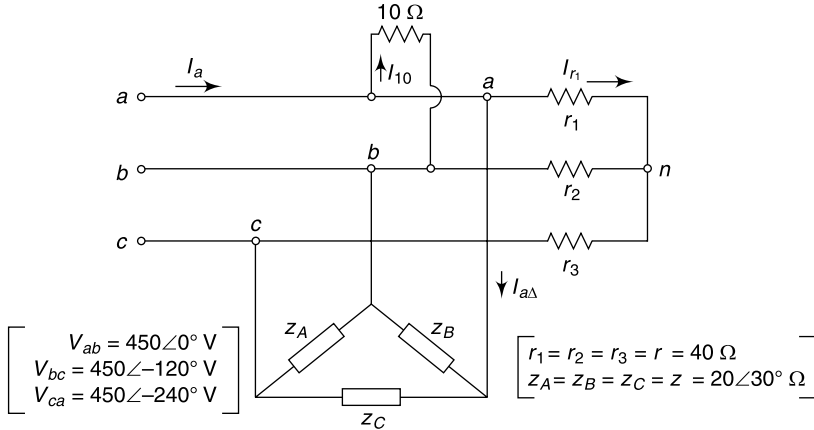

Fig. 7.27 Circuit of Ex. 7.49
7.49 In the circuit shown in Fig. 7.27 find I_a .